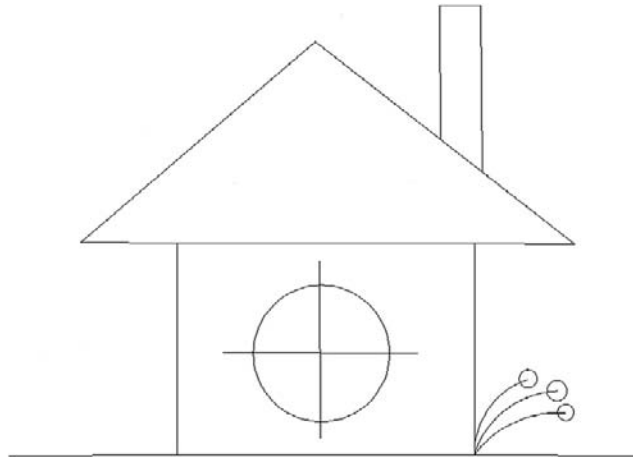

FIGURE 1.22
So let us put all of this to good use. Create the drawing shown in Figure 1.22. Use the Rectangle, Line, Circle, and Arc commands. Do not get caught up trying to make everything line up perfectly, just do a quick sketch. Then you can tell everyone that you learned how to draw a house in AutoCAD within the first half hour. Well, sort of.
- Step 2.** Select any object from the house in the previous drawing assignment (Figure 1.22) by taking the mouse, positioning it over that object (not in the empty space), and left-clicking once.